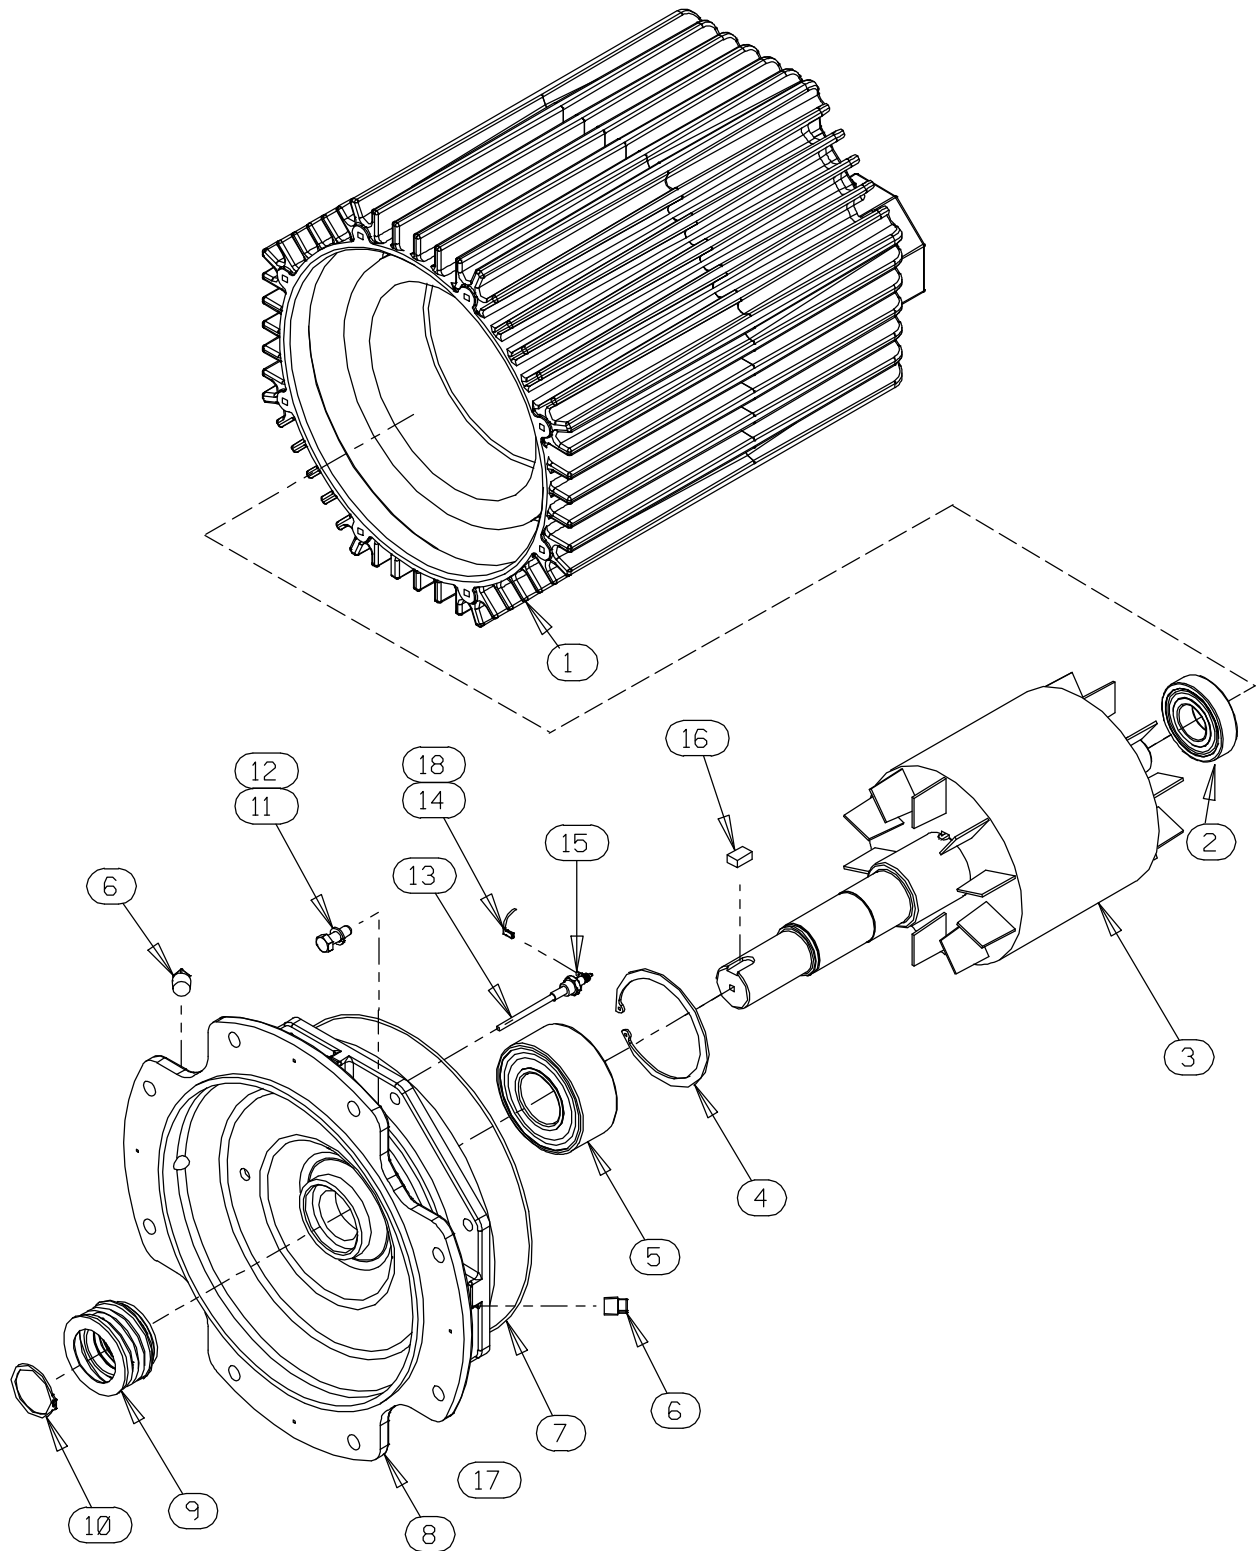

Figure E-2. 47111-848 and -849 Motor Assemblies
(Figure E-2)
To remove the impeller, use two thin-bladed screwdrivers positioned 180° apart to pry on the back of the impeller and “walk” the impeller off the shaft. Use increasingly larger screwdrivers (or wedges) as necessary. After the impeller comes free of the shaft, retain the impeller key (16, Figure E-2).
*An alternate method of removing the stationary element is to remove the screws (11) securing the seal plate (17) to the motor assembly (20). Pry the assembled seal plate and stationary element off the shoulder of the intermediate (8, Figure E-2). Remove the O-ring (16) and press the stationary element and seat out of the seal plate from the back side.*
### Upper Seal Removal (Figures E-2 and E-3)